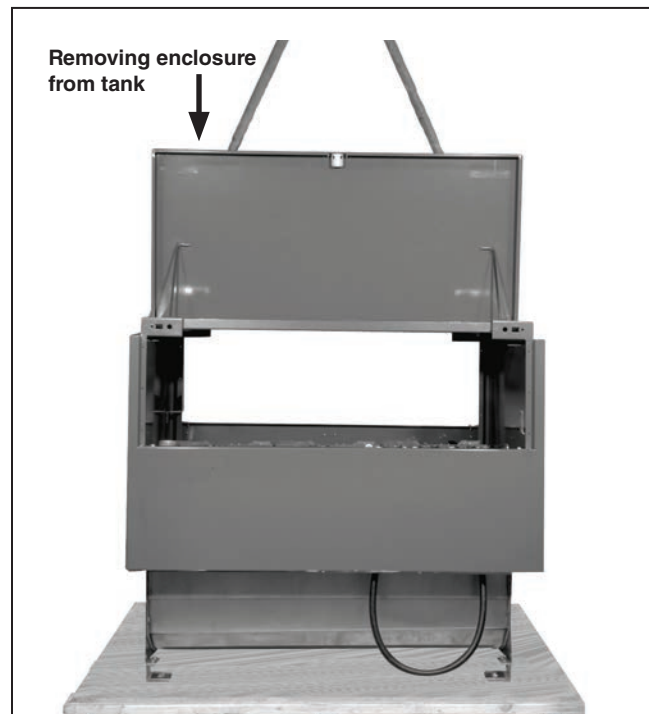

Figure 7. A pad-mounted Vista switchgear enclosure being removed from the tank.
**STEP 5.** Unbolt the enclosure from the skid and remove it from the tank, observing the precautions given in the “Handling” section on page 8. See Figure 7.